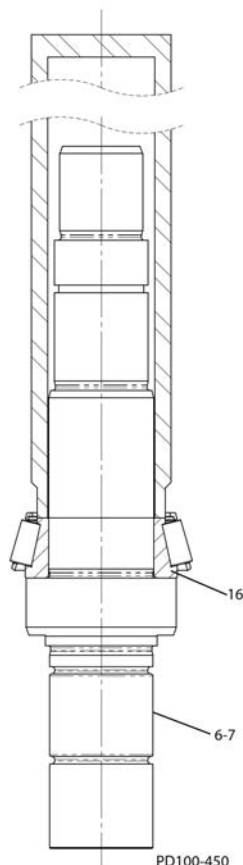

Fig. 45: Press Bearing Cone onto Shaft
Alternate method: Press the front bearing cone (Figure 45, item 16) onto the shafts (items 6-7). The bearing cone must seat squarely against the shaft shoulder.